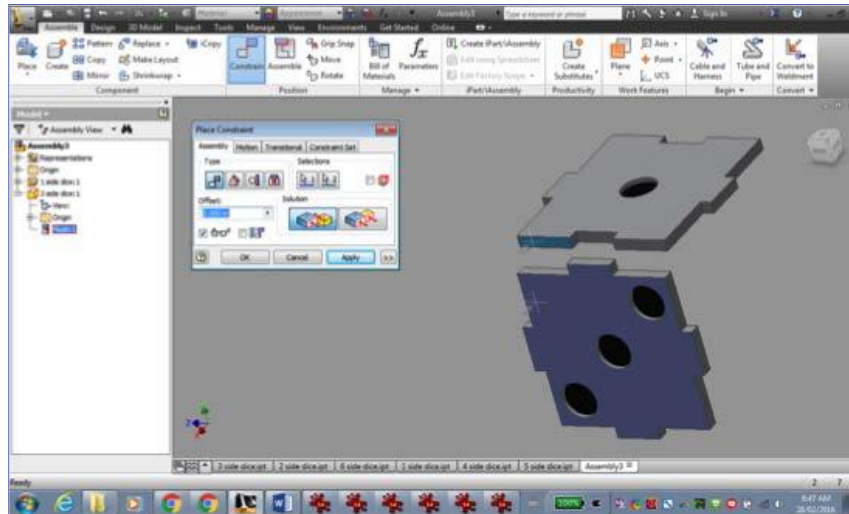

Figure 20
5. Select the two faces of the pieces as shown so that they are aligned flush, as shown in Figure 20. You may have to switch from “Mate” to “Flush” under the “Solution” in the dialog box to get the faces oriented the right way. Select “Apply” when they are lined up correctly.